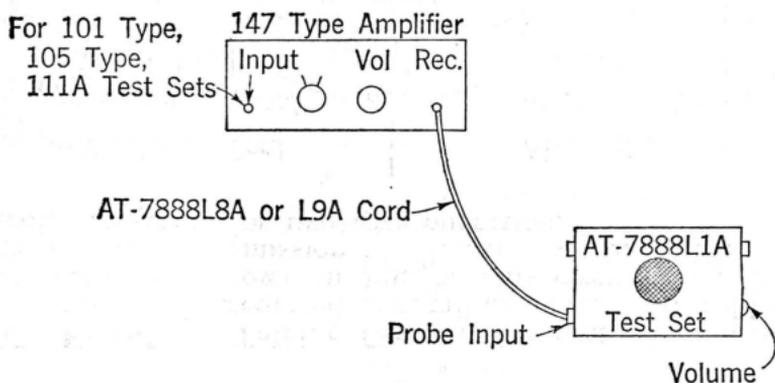

Fig. 5
4.04 **147-Type Amplifier:** The method of using and the cord required for connecting the speaker set to a 147-type amplifier are shown in Fig. 5. In this application the speaker set is used as a substitute for a receiver. The volume control of the speaker set should be adjusted to the maximum volume position. The volume control of the amplifier should be adjusted to the position which provides the desired signal volume.